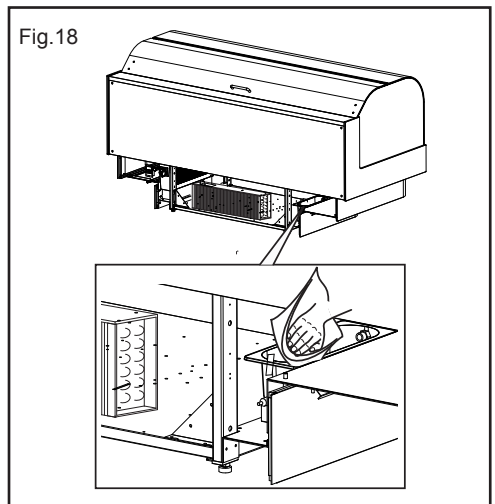

Fig.18
- Clean the condensate collector tray (fig. 18)